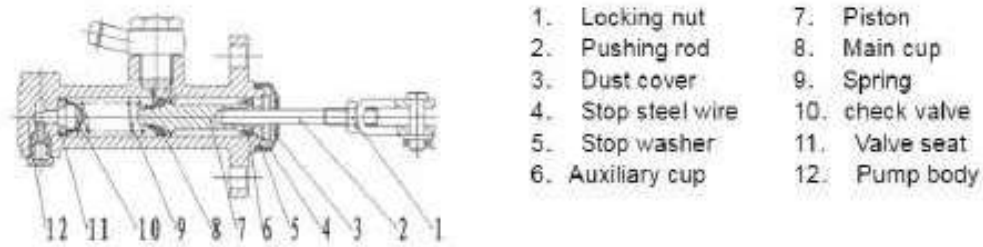

Figure 2-3 Brake Master Cylinder
2.3 Brake master cylinder (Figure 2-3)